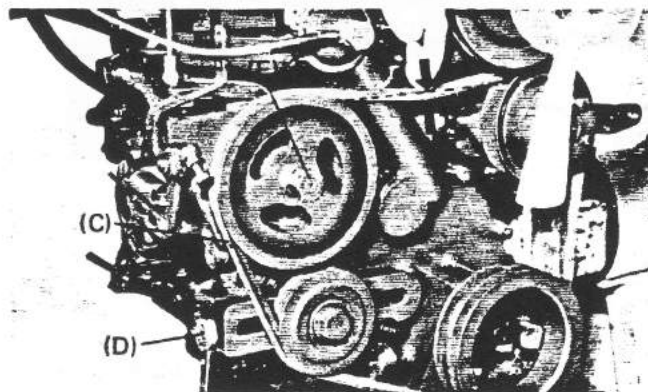

Fig. 147
- c. Fit the V-belt (C) to the idle pulley, governor pulley, and pump pulley.
- d. Tighten the adjusting bolt (D) to adjust the tension of the V-belt so that the governor lock nut (E) may be tightened to the specified torque of 36.2 ft-lb (5 kg-m).
- e. Rotate the adjusting bolt as shown in Fig. 147 so that the V-belt flexes 0.55 ~ 0.78 in. (14 ~ 20 mm) (in case of tension of some 22.05 lb (10 kg)) by depressing with fingers midway between the pulleys. If the belt is a new one, adjust the flexion of the belt to 0.55 ~ 0.67 in. (14 ~ 17 mm).